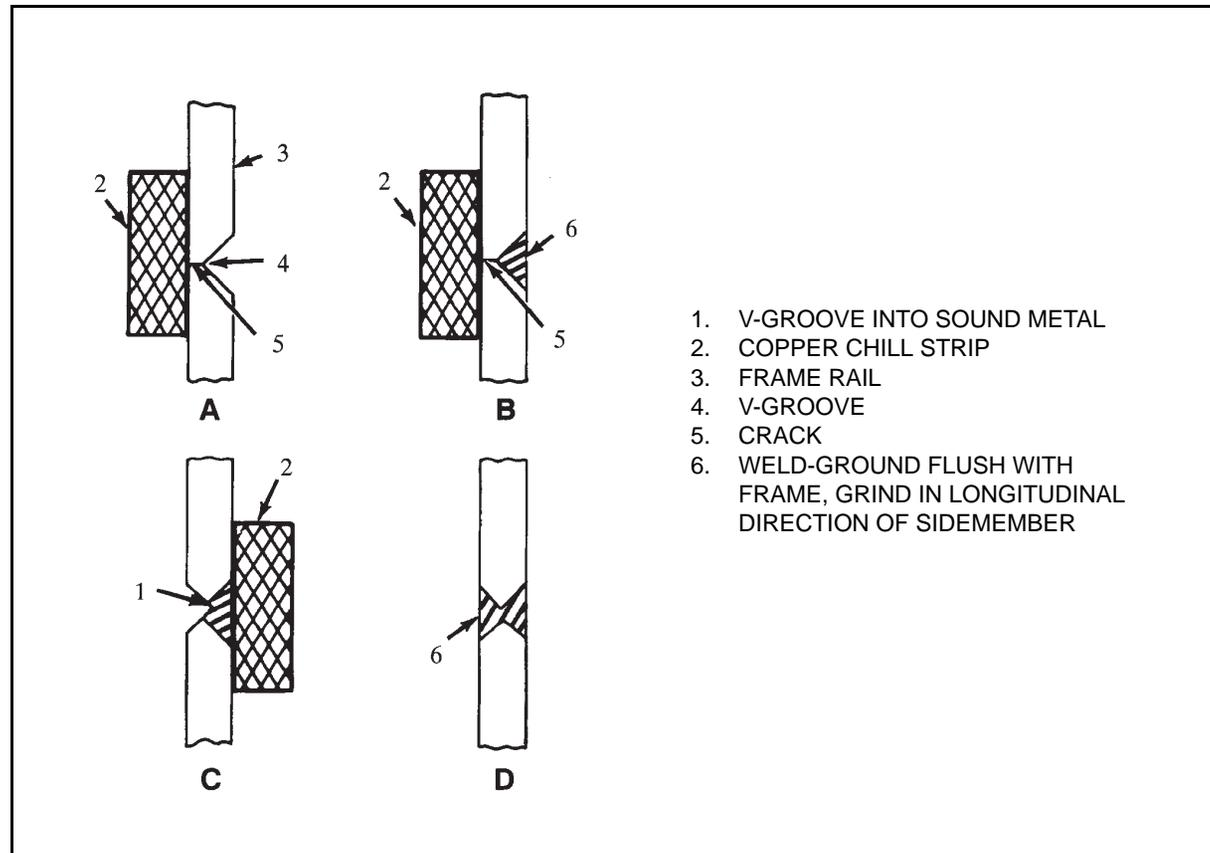

Figure 2.4 Use of Chill Strip
5. Grind smooth and flush with surrounding sidemember material. Grind the weld in a direction that is 90° to crack direction (Figure 2.4 D).
The SMAW and the GMAW methods are preferred for welding the HSLA frames. The use of low hydrogen electrodes is recommended. Refer to Table 2.1 for selection of recommended electrodes and wires, or refer to A.W.S. A.5 standard available from [www.aws.org](http://www.aws.org) for equivalent strength electrodes, wires or rods and power leads to be used in the welding methods. The double V-notch weld preparation using the weld procedure shown in Figure 2.4 is the preferred welding method.
10. Grind smooth and flush with surrounding sidemember material. Grind the weld in a direction that is at 90° to crack direction (Figure 2.4 D).
A heavy copper “chill” strip should be clamped to the rail side away from the groove to help control the temperature and cooling rate during welding (Figure 2.4). Short lengths of discarded heavy copper electrical bus bars make suitable chill strips.
Slag should be removed after each pass and an interpass temperature of 200° F (93° C) should be maintained. Grind smooth and flush with surrounding sidemember material, in a direction that is parallel to the longitudinal axis of the sidemember (Figure 2.4 D).
A V-groove is ground from the side opposite the repair and the procedure outlined above repeated. “Chill” strips should be used whenever possible. The V-groove ground on the opposite side of the repair should be deep enough to enter the sound metal of the first weld repair as shown in Figure 2.4 C.